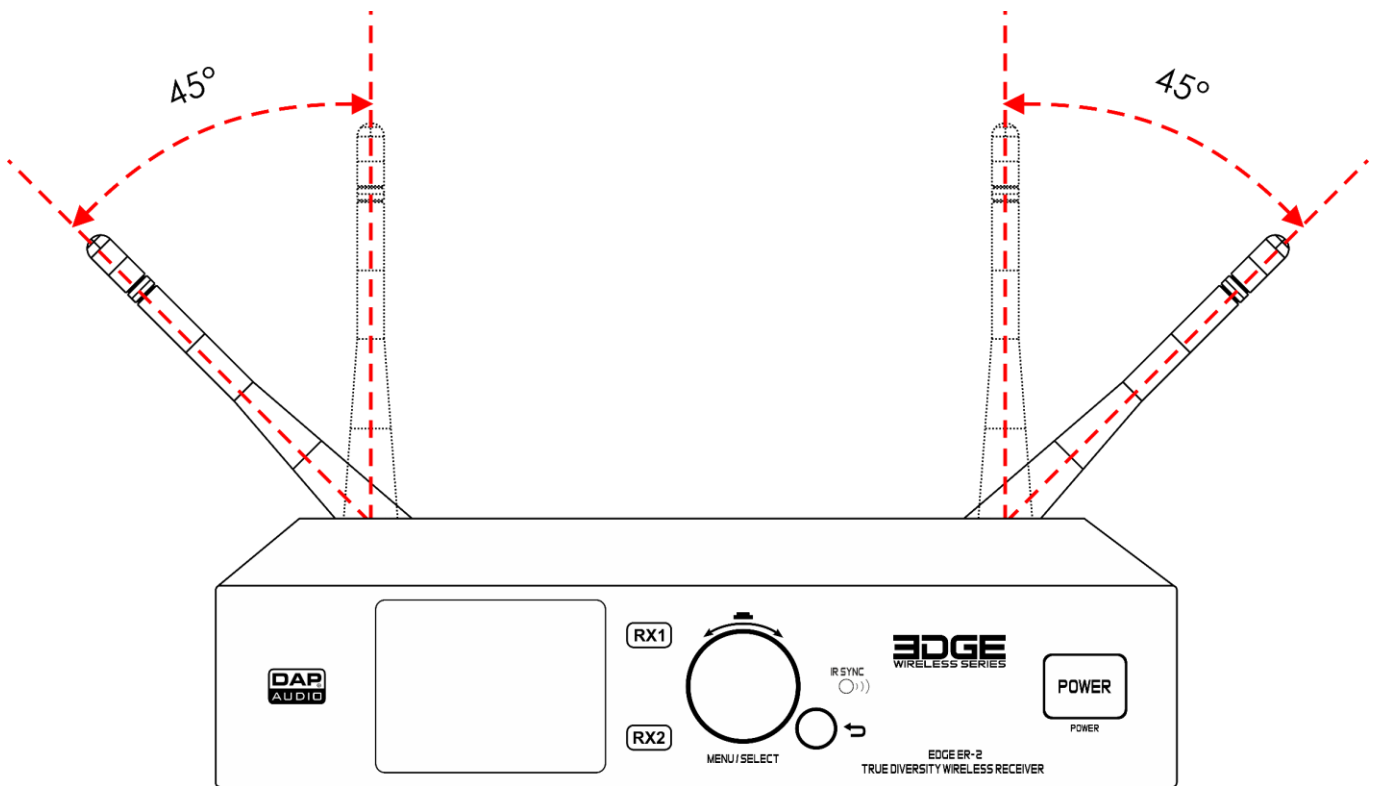

Fig. 13
- 01) Insert the 1st antenna into the **12–15 V DC BNC connector (08)**.
- 02) Insert the 2nd antenna into **12–15 V DC BNC connector (11)**.
- 03) Point the antennas away from each other at an angle of 45° (Fig. 13).